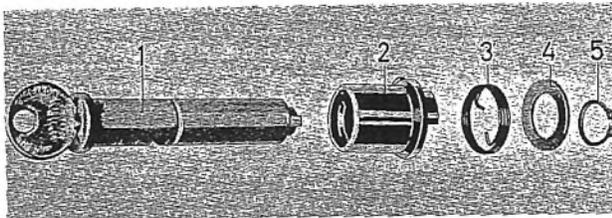

Fig. 8-20. Door lock push button disassembled
2. Remove the circlip (5, Fig. 8-20). The lock cylinder can then be taken out of the push button.